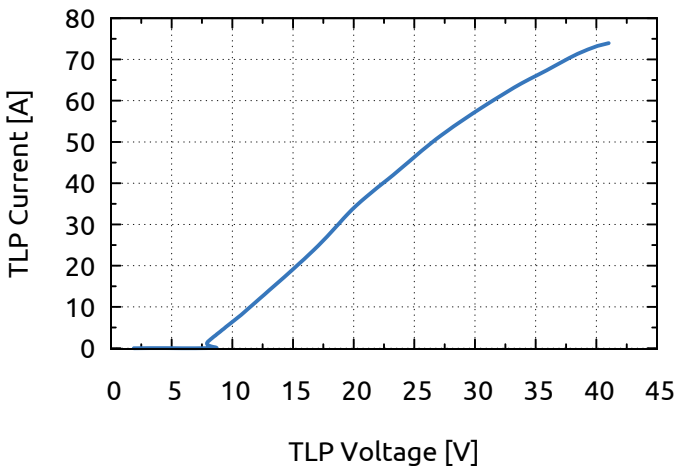
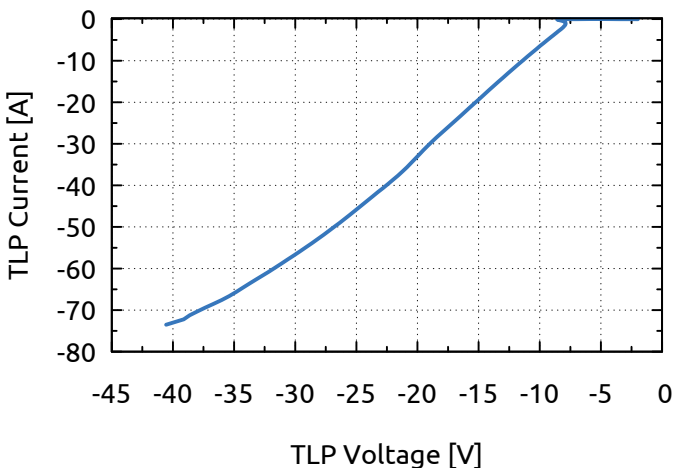
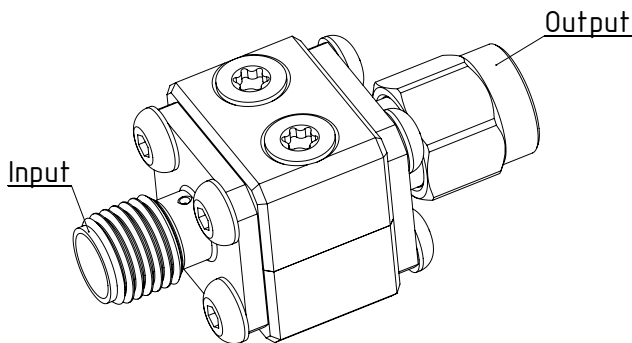
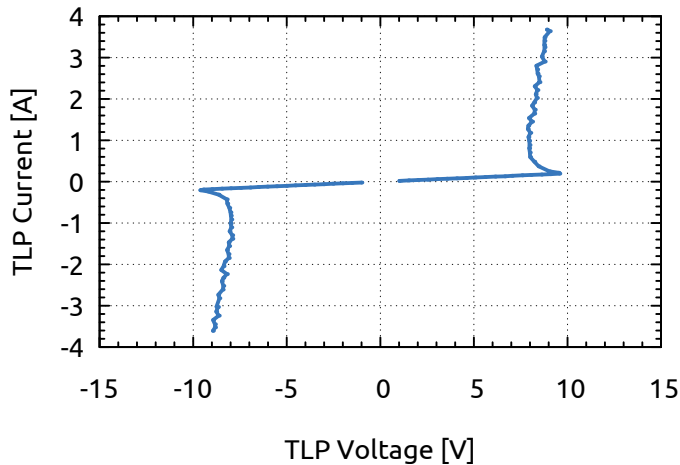

Figure 4: Typical positive clamping characteristic. TLP parameter:  $50 \Omega$ , 100 ns pulse width, 0.6 ns rise time, 70 ns to 90 ns averaging window.
Figure 5: Typical negative clamping characteristic. TLP parameter:  $50 \Omega$ , 100 ns pulse width, 0.6 ns rise time, 70 ns to 90 ns averaging window.
Figure 8: TVS-70MF-10 overvoltage protection with 50 Ω SMA(female) input and SMA(male) output.
Figure 11: TLP test result with setup shown in Fig. 9
Fig. 4 and Fig. 5 show the high current clamping characteristics of the TVS-70MF-10 for positive and negative polarities. The device can absorb energies up to  $\pm 25$  kV according IEC 61000-4-2 with  $R = 330 \Omega$ ,  $C = 150$  pF at contact discharge. Please note, that at  $>100$  ns TLP pulse width the energy absorption capability of the device is decreased significantly.
The TVS-70MF-10 overvoltage protection device shown in Fig. 8 is used to protect the sensitive high-speed sampling oscilloscope input from overload in case of a possibly error in the TLP measurement set-up. The TVS-70MF-10 is based on a bi-directional ultra-low capacitance transient voltage suppressor (TVS) diode. It protects the sensitive oscilloscope input against overload and destruction. In general, oscilloscopes from different vendors have different input maximum ratings of pulsed overstress at ESD/EOS condition. Therefore, HPPI cannot specify or guarantee any resulting level of protection. The resulting level of protection may be evaluated together with the oscilloscope vendor using the clamping characteristic of the TVS-70MF-10 shown in Fig. 4 and Fig. 5. The TVS-70MF-10 can be used from DC up to 6 GHz. Applying a DC voltage exceeding  $\pm 5$  V has to be absolutely avoided.
- Compare the measurement result with Fig. 11.
If the measurements according the above given description and those shown in Fig. 4, Fig. 5 and Fig. 11 differ significantly, please raise query with HPPI.